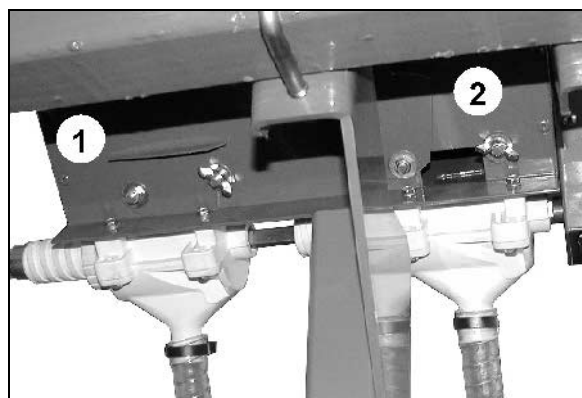

Fig. 54
2. Slacken the thumb nuts of both emptying flaps (Fig. 54/1).